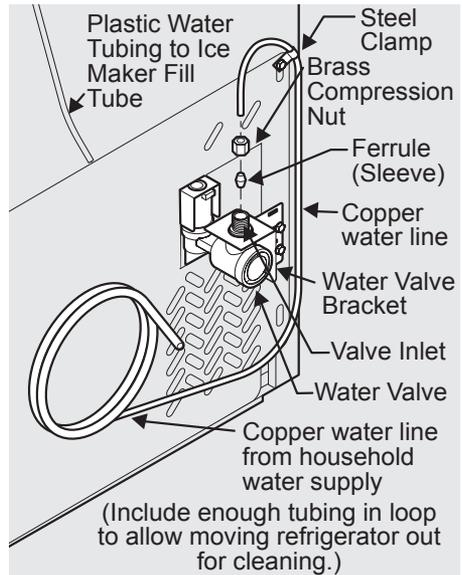

Figure 1
4. If you use copper tubing - Slide brass compression nut, then ferrule (sleeve) onto water supply line. Push water supply line into water valve inlet as far as it will go ( $\frac{1}{4}$  inch/6 mm). Slide ferrule (sleeve) into valve inlet and finger tighten compression nut onto valve. Tighten another half turn with a wrench; DO NOT overtighten. See Figure 1.